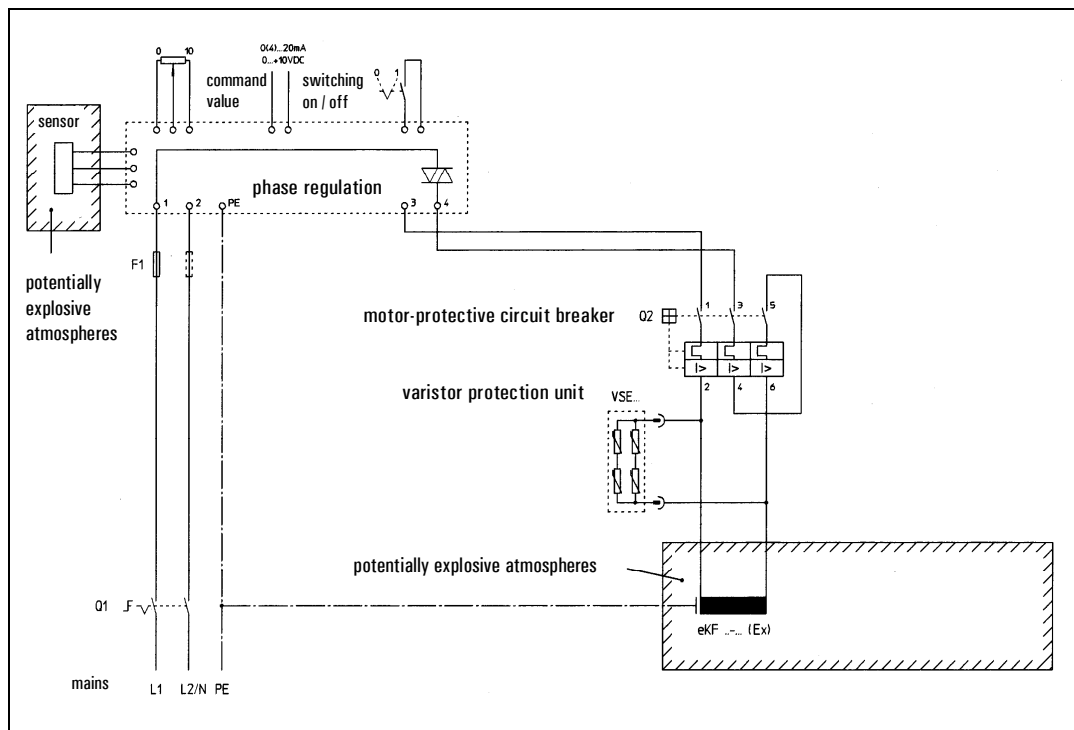
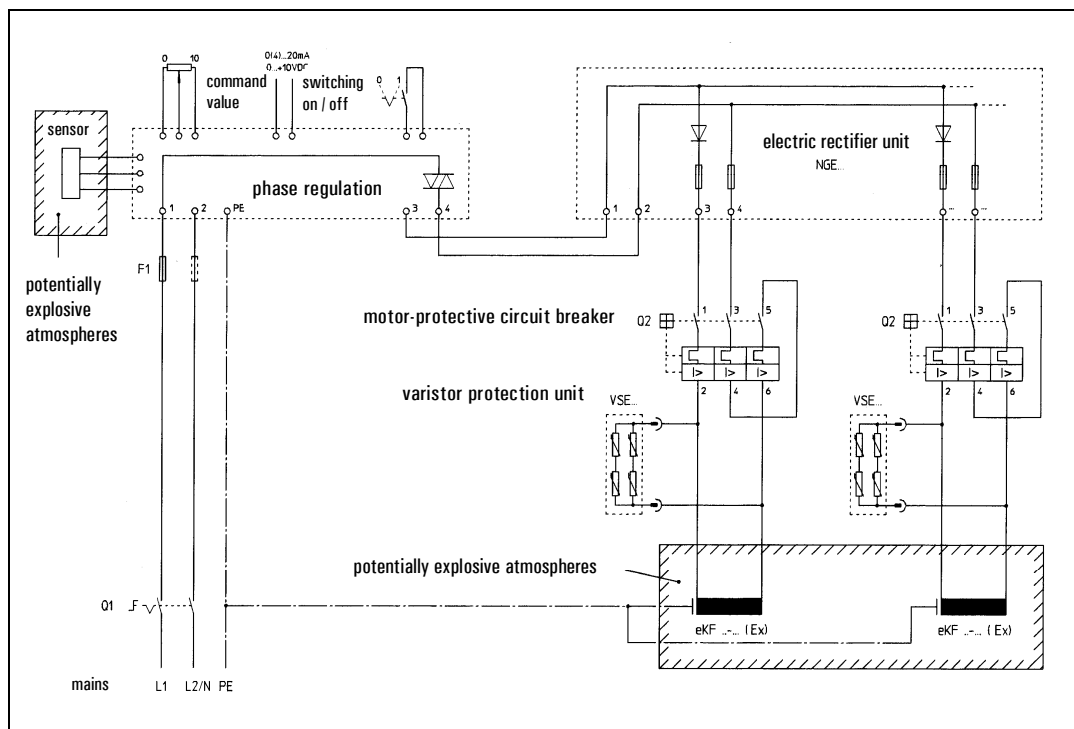

Figure 4-4 Connection diagram, single drive
Figure 4-5 Connection diagram, multiple drives
Depending on the application a single small-parts conveyor drive (s. figure 4-4) or up to 4 small-parts conveyor drives (s. figure 4-5) can be operated with a single controller.
For single drives the wiring has to be carried out as shown in figure 4-4 below.
If several small-parts conveyor drives (multiple drives) are operated with a common controller the wiring has to be carried out as shown in figure 4-5 below.
*For every small-parts conveyor drive a AViTEQ varistor protection unit (VSE...) is required! With multiple drives (s. figure 4-5) further an AViTEQ electric rectifier unit (NGE...) is required!*